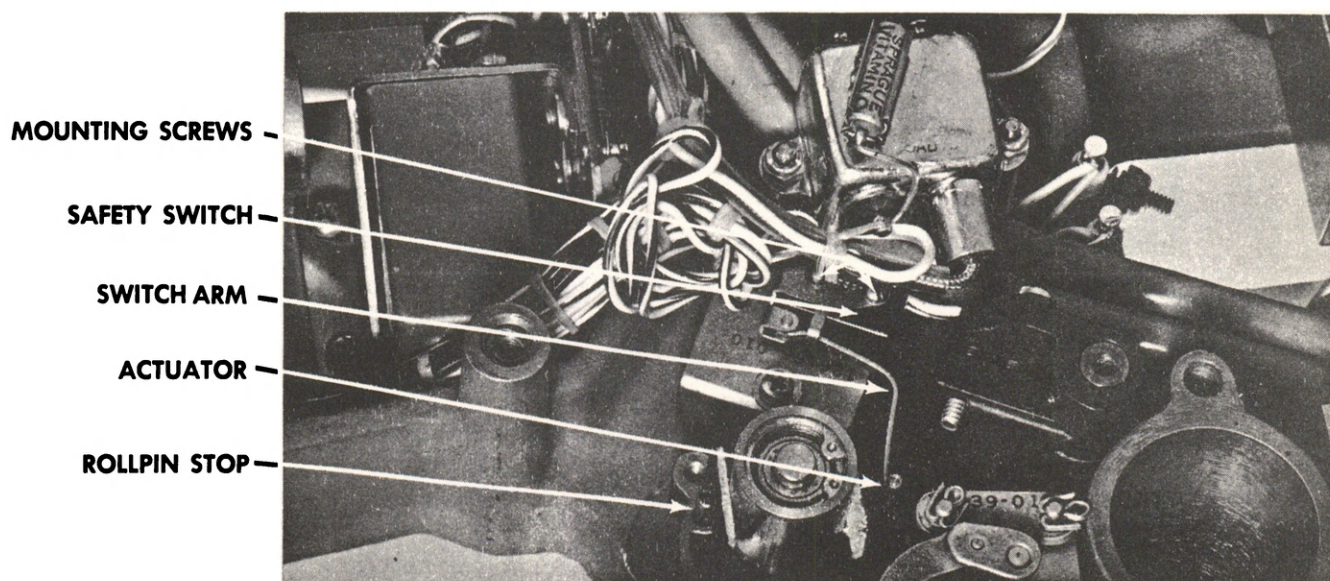

Figure 6-12 Safety Switch
Step 2: Unscrew the two cross-recessed screws securing the safety switch to the transport casting and remove the switch assembly from the underside of the transport. See Figure 6-12.
- Step 2: Bend the switch arm so that the switch is actuated by the actuator just before the actuator hits the rollpin stop. (See Figure 6-12.)